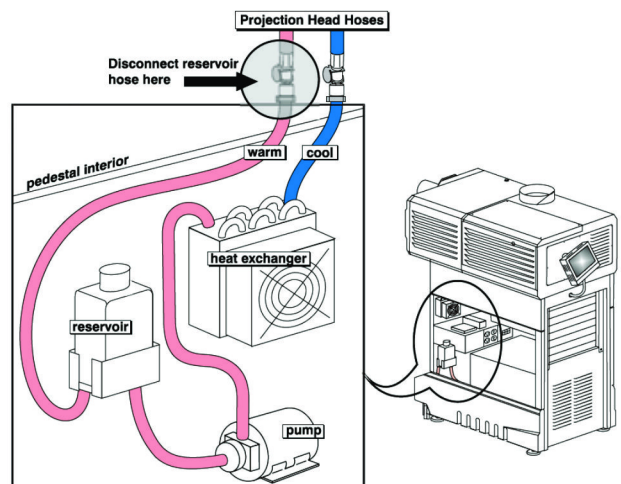

Figure 4 Hose Connections in CP2000-S/-SB/-h/-i
1. Within the pedestal (near the front), release the reservoir hose quick coupling connector at the top edge of the pedestal (**Figure 4**). **NOTE:** The physical location of this quick coupling connector may vary from model-to-model and from unit-to-unit – i.e., the reservoir may connect near the lamp side, or it may connect near the igniter side. Make sure to disconnect the reservoir hose in all cases.